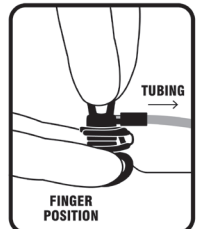

Figure 5
1. **Position forefinger and middle finger onto Pro-Lock's base from side opposite of extension tubing.** With available hand, firmly grasp wings between thumb and forefinger (Fig. 5).
15. Stabilize port by placing two fingers on the base of the Pro-Lock™ CT Safety Infusion Set from side opposite of extension tubing (Fig. 5).